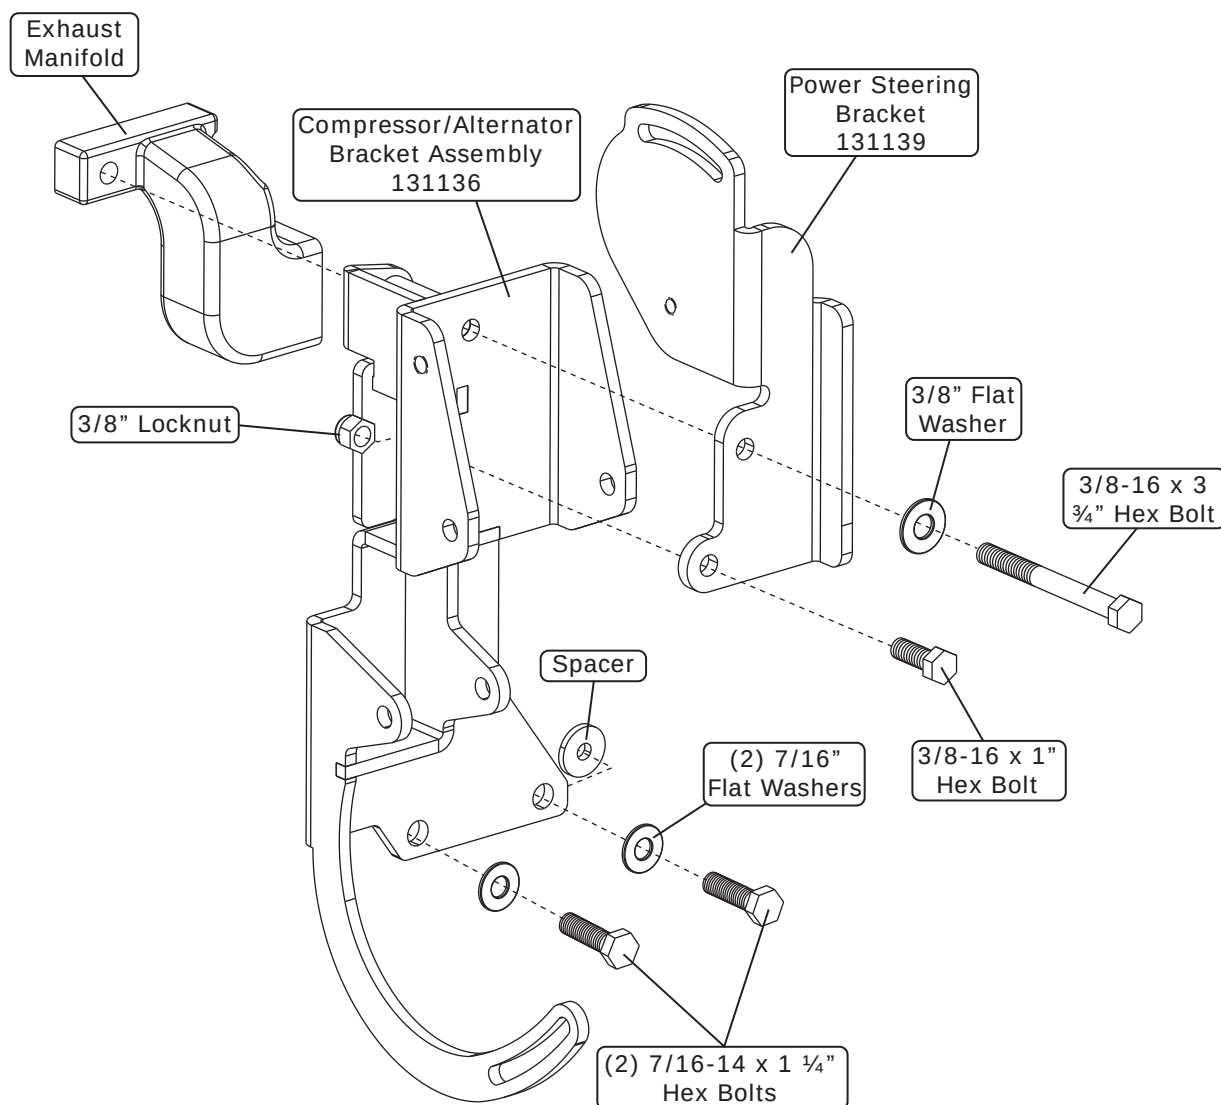

Figure 2
2. Insert a 3/8-16 x 3 3/4" hex bolt with a 3/8" flat washer into the top hole of the power steering bracket, through the compressor/alternator bracket assembly, and into the exhaust manifold bolt hole as shown in Figure 2, below. Torque to 23 lb ft.
3. Insert a 3/8-16 x 1" hex bolt into the bottom hole of the power steering bracket, through the compressor/alternator bracket assembly, and into a 3/8" locknut as shown in Figure 2, below. Torque to 23 lb ft.
4. Insert a 7/16-14 x 1 1/4" hex bolt with a 7/16" flat washer into the bottom front hole of the compressor/alternator bracket assembly, through the motor mount bracket, and into the engine boss (See Figure 2, below). Torque to 37 lb ft.
5. Locate the spacer supplied with the hardware kit. Insert a 7/16-14 x 1 1/4" hex bolt with a 7/16" flat washer into the bottom rear hole of the compressor/alternator bracket assembly, through the spacer, and into the engine boss (See Figure 2, below). Torque to 37 lb ft.